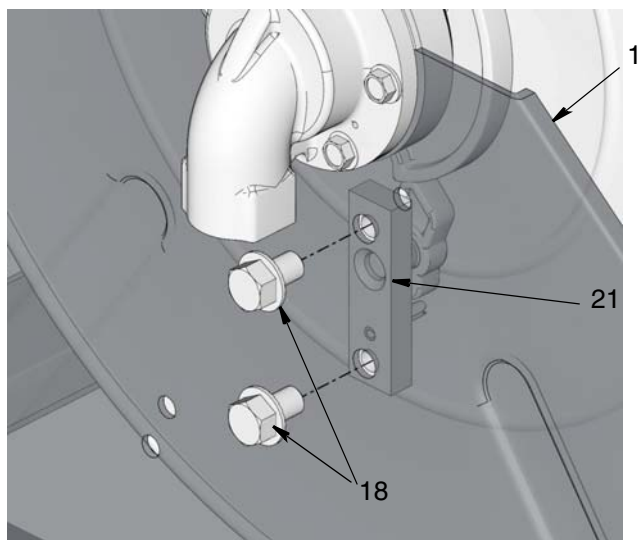

FIG. 76
3. Remove large bolts (18) holding latch assembly (21) to base (1) (FIG. 76). Discard latch assembly.
1. Align latch assembly (21) with reel base (1) and orient it as shown in FIG. 76.
2. Replace bolts (18).